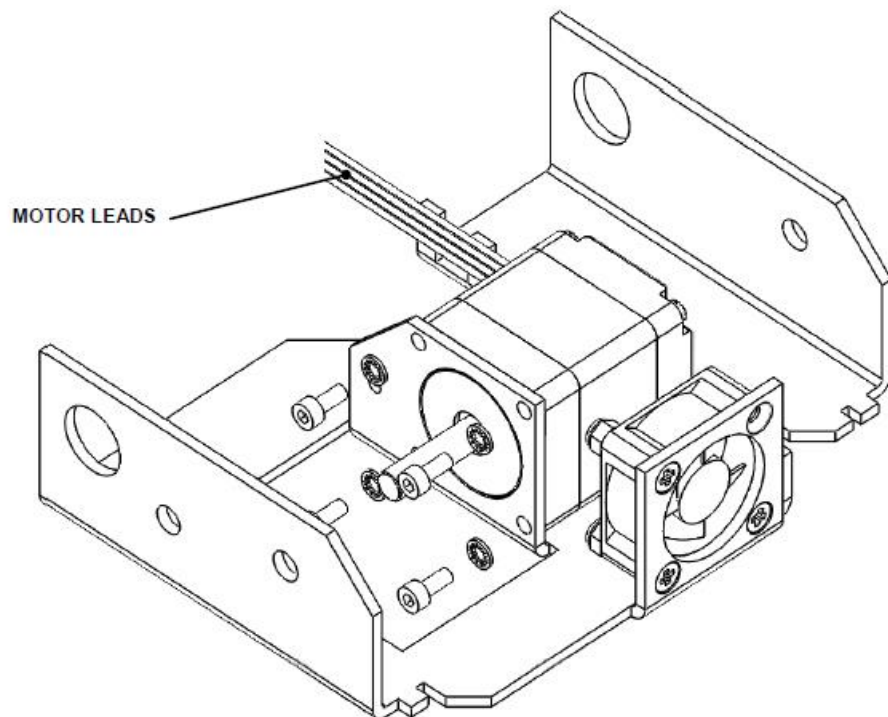

Figure J-11: Removing the Motor
2. Remove the four screws that attach the motor assembly to the driver chassis (Figure J-11).
2. Mount the motor as shown in Figure J-11.